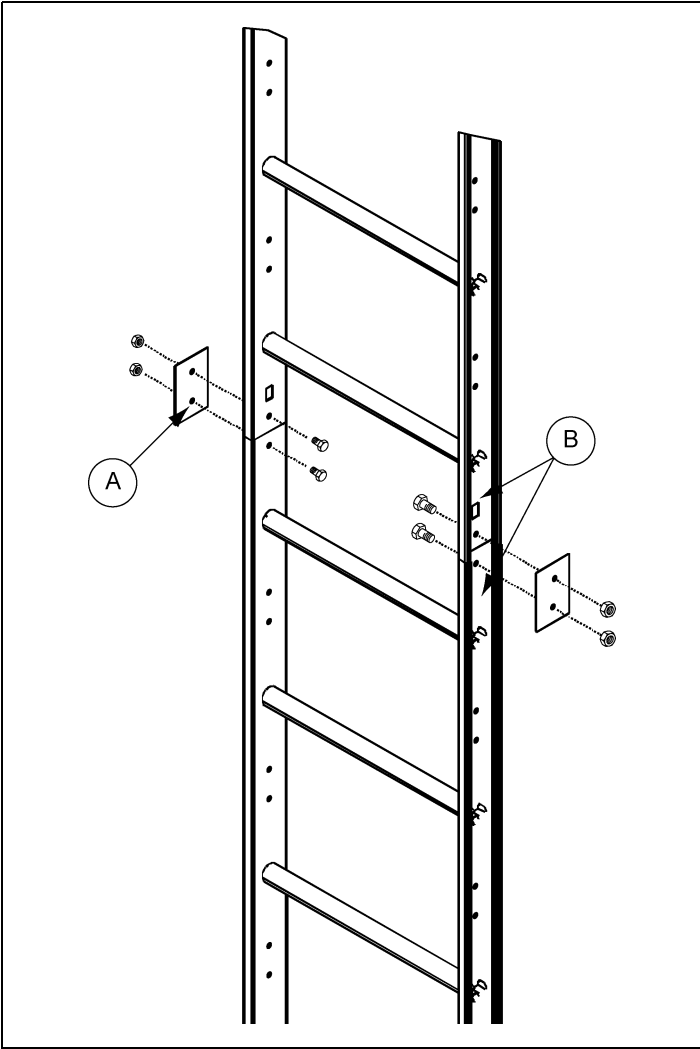

Figure 10A
Two (2) splice plates (A) are required to attach each ladder section (B). The head of the bolt should be to the inside of the ladder with the splice plate (A) on the outside as shown in Figure 10A. Use 5/16" x 1" bolts for all connections.